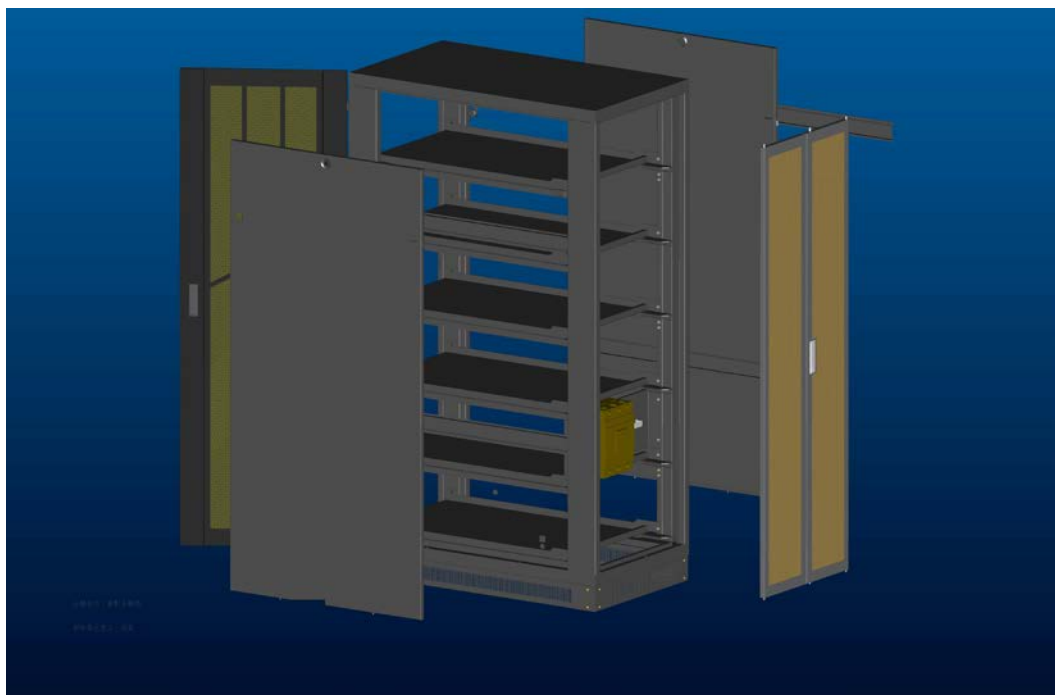

Fig.2
2.1 Place the battery cabinet well, then remove the right/left and rear panel, shown in Fig.2.